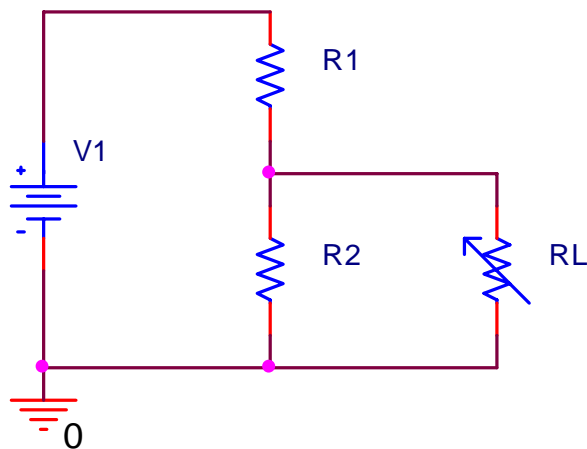

Figure 1: A circuit of voltage divider
At times-especially in electronic circuits-developing, more than one voltage level from a single voltage supply is necessary. One way of doing this is by using a voltage-divider circuit. Considering a circuit shown in Figure 1, voltage source V_1 , resistors R_1 and R_2 form one standard voltage divider circuit and voltage output is measured across the two terminals of R_2 .
Since the ratio in equation (1) is always less than 1.0, the output voltage V is always less than the source voltage V_1 . Consider that a resistor R_L is connected in parallel with R_2 , as shown in Figure 1. The resistor R_L acts as a load on the voltage-divider circuit. A load of any circuit consists of one or more circuit elements that draw power from the circuit. With the load R_L connected, the expression for the output voltage becomes